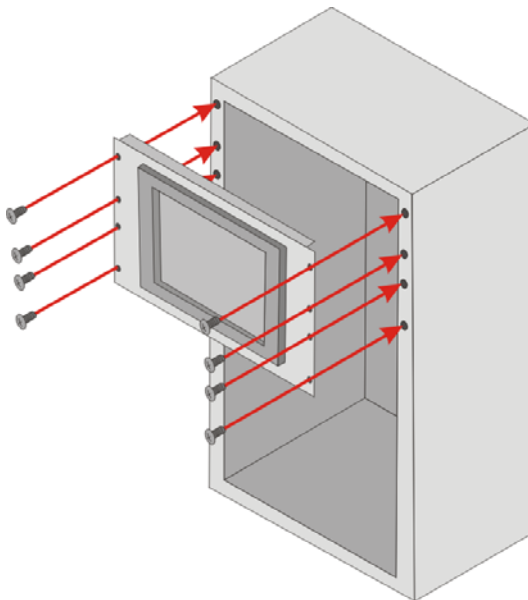

Figure 3-30: Install into a Rack/Cabinet
Step 6: Slide the panel PC with the attached rack/cabinet bracket into a rack or cabinet (Figure 3-30).
Step 7: Once the panel PC with the attached rack/cabinet bracket has been properly inserted into the rack or cabinet, secure the front of the rack/cabinet bracket to the front of the rack or cabinet (**Figure 3-30**).